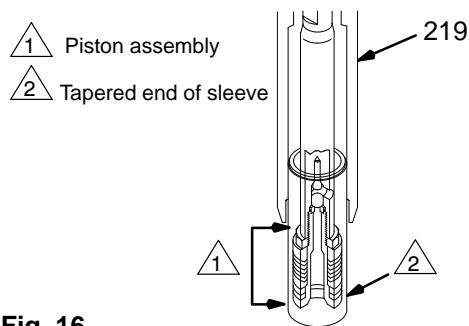

Fig. 16
4. **Note the alignment** of the piston (222) to the piston nut (211) and maintain this alignment through Steps 4, 5 and 6.
5. Apply **ONE** drop of adhesive, supplied with the repair kit, to the piston threads. Place the ball (225\*) on the piston. Hand tighten the piston into the rod (224) just until the nut (211) contacts the rod. Place the flats of the rod in a vise.
6. Tighten the nut (211) onto the rod (224) to 19 ft-lb (25 N.m.). Use two wrenches to maintain the alignment as mentioned in Step 3.
7. Stack the throat packings into the top of the cylinder (219). Install the packing nut (216) loosely.
8. Insert the piston rod assembly into the **top of the sleeve**. Install the gasket (202) on the sleeve. Slide the sleeve assembly into the **bottom of the cylinder**. Note that the tapered end of the sleeve is the bottom. See Fig. 16.